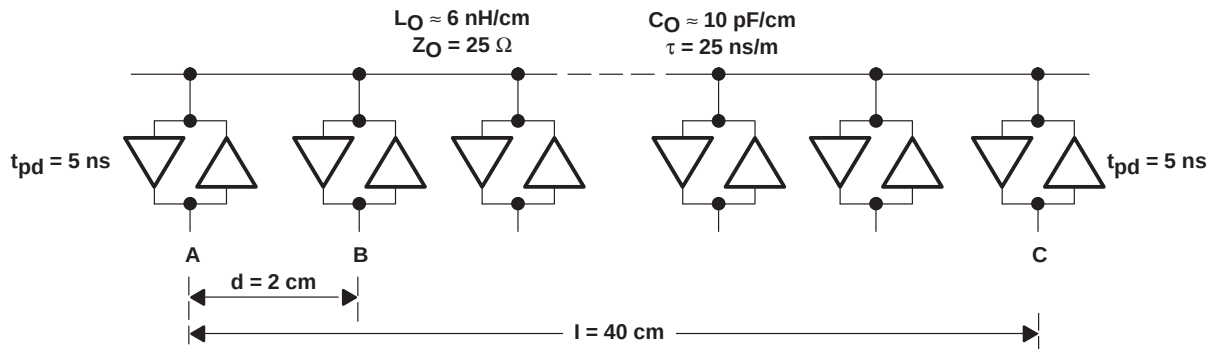

**Figure 6. Example of a Bus Line**
**Table 3. Signal Delay Using Figure 6 as an Example**
However, if the amplitude of the incident wave is insufficient, it is necessary to wait until the reflected wave returns from the end of the line to the beginning. Only then is a valid logic level reached on the entire bus line. In the example of Figure 6, according to Table 3, the signal delay time of 30 ns maximum results. Thus, when compared with switching with the incident wave, the signal delay time of the system is increased by 10 ns, or 50%.